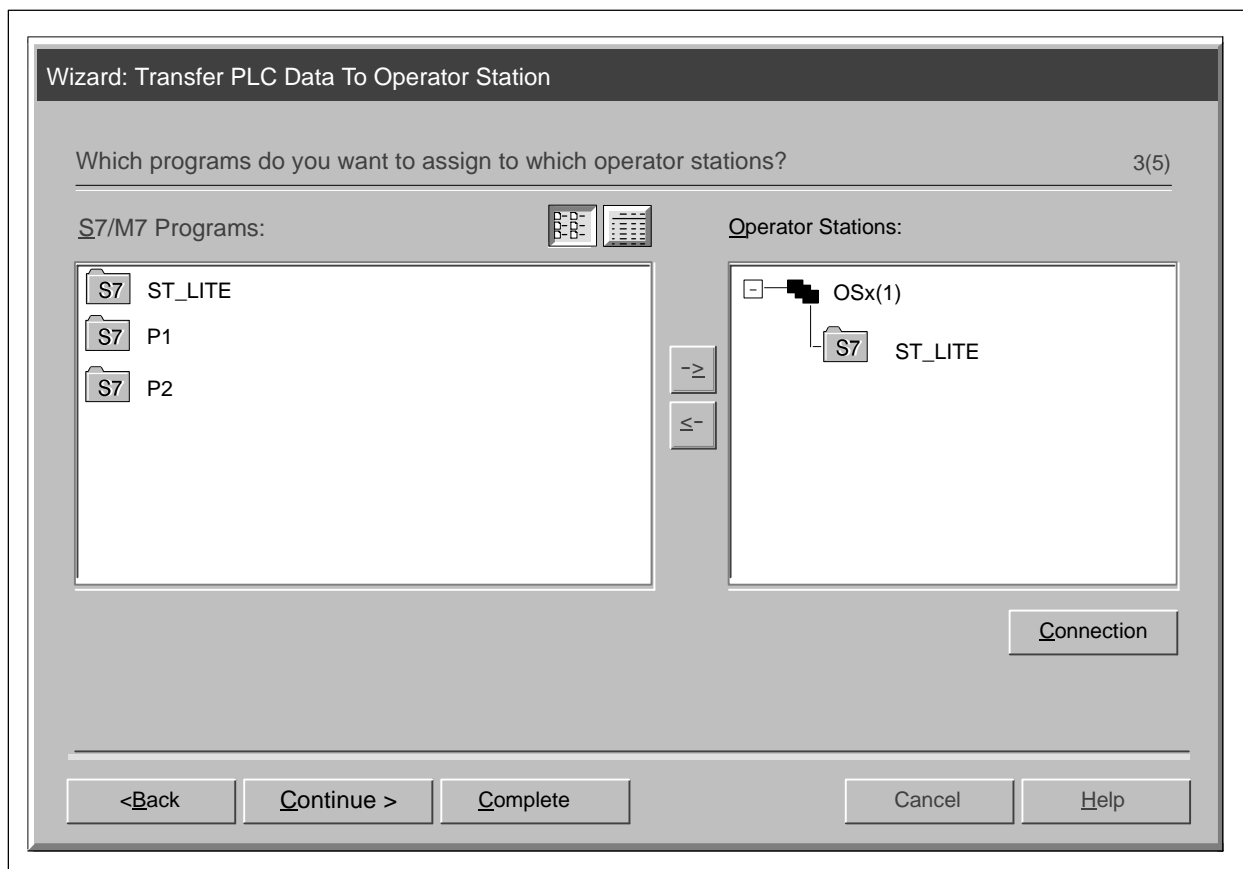

Figure 2-13 Assigning Programs to the OSx
4. Click **Continue**. A window appears that allows you to assign an S7 program to the OSx (Figure 2-13). If the programs have already been assigned to OSx, go to step 6.